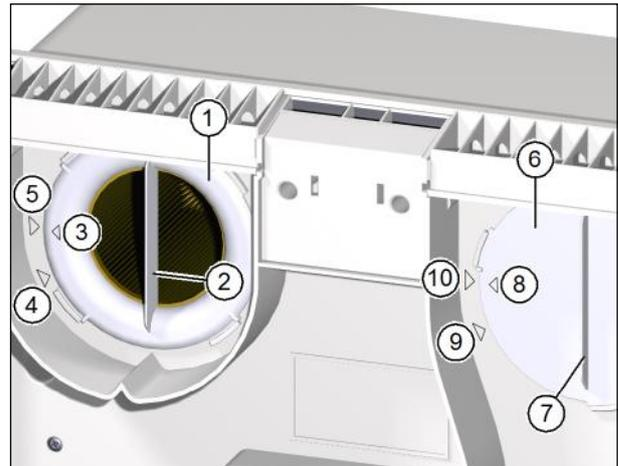

Fig. 14: Remove air filters
- ▶ Turn the filter ring (item 1 in Fig. 14) using the hand grip (item 2 in Fig. 14) anti-clockwise until the arrow on the filter ring (item 3 in Fig. 14) lines up with the arrow at the removal position (item 4 in Fig. 14).
- ▶ Turn the filter cover (item 6 in Fig. 14) using the hand grip (item 7 in Fig. 14) anti-clockwise until the arrow (item 8 in Fig. 14) on the filter cover lines up with the arrow at the removal position (item 9 in Fig. 14).
- ▶ Make sure that the filter ring is oriented so that the arrow on the filter ring (item 3 in Fig. 14 on page 20) lines up with the arrow for the removal position (item 4 in Fig. 14 on page 20).
- ▶ Turn the filter ring clockwise until the arrow on the filter ring (item 3 in Fig. 14 on page 20) lines up with the arrow for the locking position (item 5 in Fig. 14 on page 20).
- ▶ Check the position of the filter ring and filter cover. The hand grips must be vertical and the arrows on the filter ring and filter cover must line up with the arrows for the locking position (see Fig. 14 on page 20).